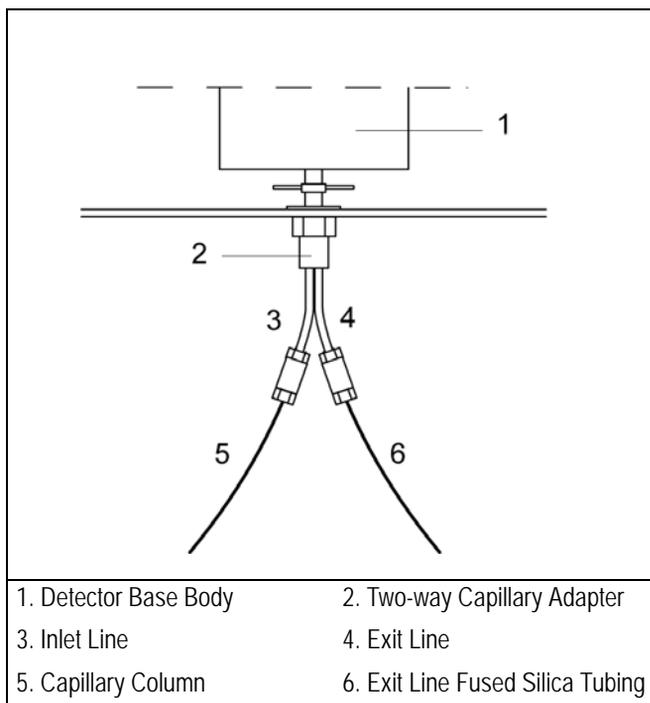

Figure 19-7. Capillary Column and Exit Line Connections
12. Connect capillary column and exit line to the PID as described in *Chapter 14* on page 298. The result of the operation is shown in Figure 19-7.